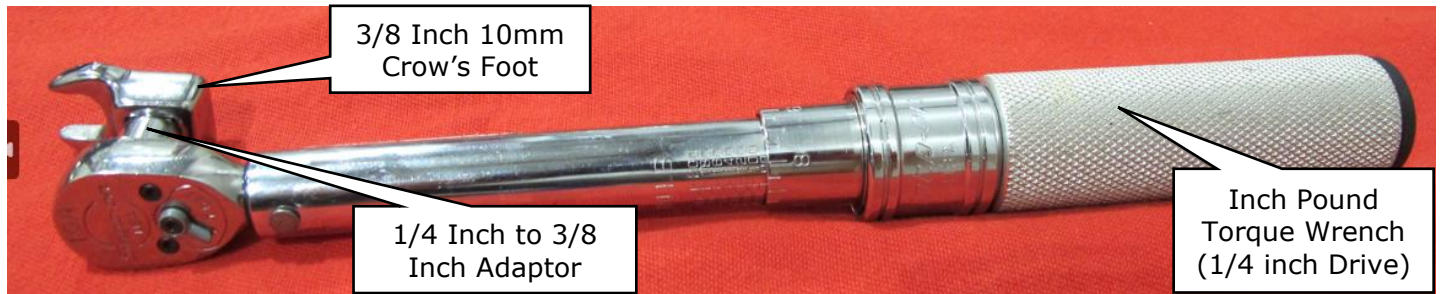

Figure 1
- Use the torque wrench set-up shown in Figure 1